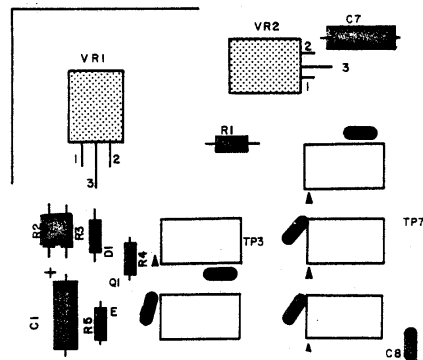

Figure 4-6. Voltage Regulator Installation
(Figure 4-6)
3. Referring to Figure 4-6, set the regulator and heat sink in place on the silk-screened side of the board and secure them with a #6-32 x 3/8" screw and 6-32 nut.